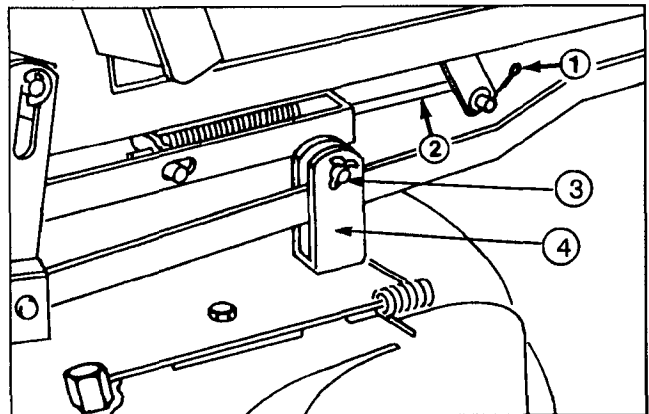

Figure 27
4. Remove cotter pin from adjustment rod and pull from pivot tube arm (Fig. 27).
2. Remove cotter pin from adjustment rod (Fig. 27).